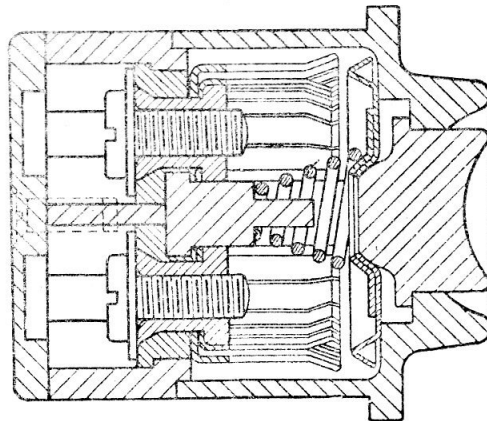

Fig. 2. Sectional view of starting switch
8. The mechanism of the switch is shown in fig. 2. When the button is pressed, the rim of the circular contact plate is brought into engagement with the outer and inner contacts. There are two of each of these contacts, each forming nearly a semi-circle. The upper pair is connected to one terminal and